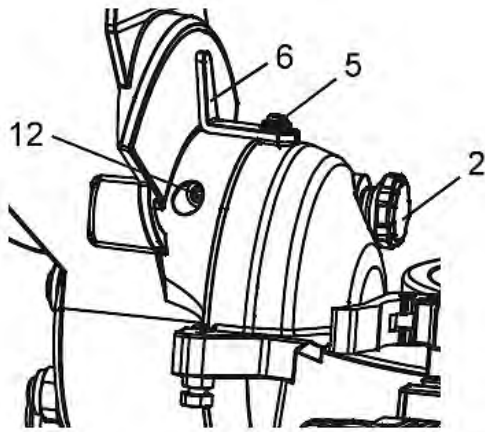

Fig. 19: Setting the 90° inclination
- Step 1:** Loosen the miter lock handle (1) and fully tilt the cutting arm to the right while pressing the 33.9° chamfer pin (2-Fig.19) against the 0° chamfer stop. Tighten the miter lock handle (1).
- Step 2:** Place a combination angle (3) on the miter table with the ruler against the table and the heel of the square against the saw blade.
- Step 3:** If the saw blade is not 0° away from the miter table, loosen the three adjustment screws (4) on the back of the saw with a 5 mm Allen key. Unlock the miter lock handle (1) and adjust the cutting arm.
- Step 6:** Tighten the three adjustment screws (4) and tighten the locking handle (1) when alignment is achieved.
Setting the 90° tilt indicator (Fig.19)
- Step 1:** Set the miter angle to 0°. Pull the sliding stop fully to the right and the taper lock pin (2) forward. (Fig. 19).
Step 1: Set the miter angle to 0°. Pull the sliding stop fully to the right and the taper lock pin (2) forward. (Fig. 19).
Step 3: Pull out the 33.9° locking pin (2), tilt the cutting arm to the 33.9° right stop and push the 33.9° locking pin (2) in (Fig. 19).
Step 3: Tilt the cutting arm to 33.9° to the left by pushing in the 33.9° tilt pin (2). (Fig. 19)
Step 5: If the saw blade is not 33.9° to the miter table, tilt the cutting arm to the right and turn the hexagonal screw (12) in or out with a 3 mm Allen wrench until the saw blade is 33.9° to the table. (Fig. 19)